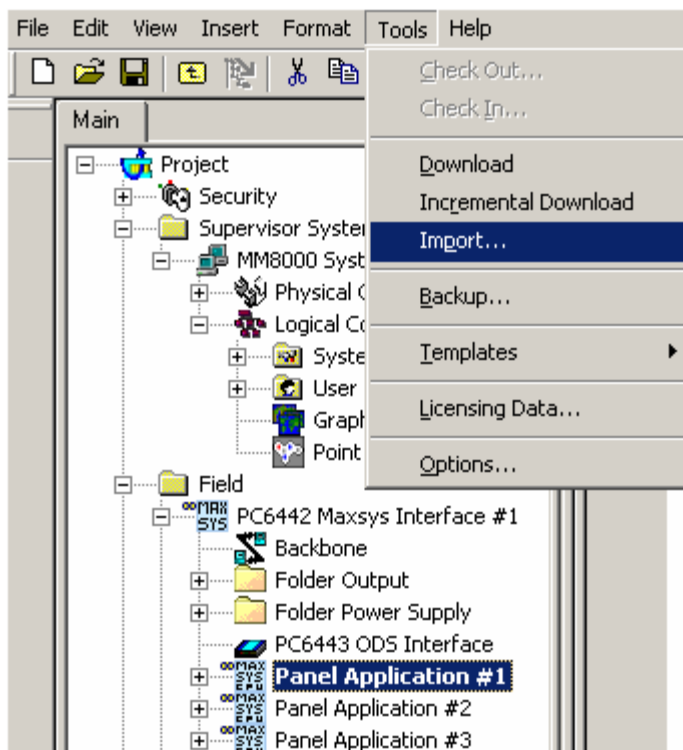

Fig. 14 Starting the import procedure
2. Select Tools→Import in the Composer menu (Fig. 14).